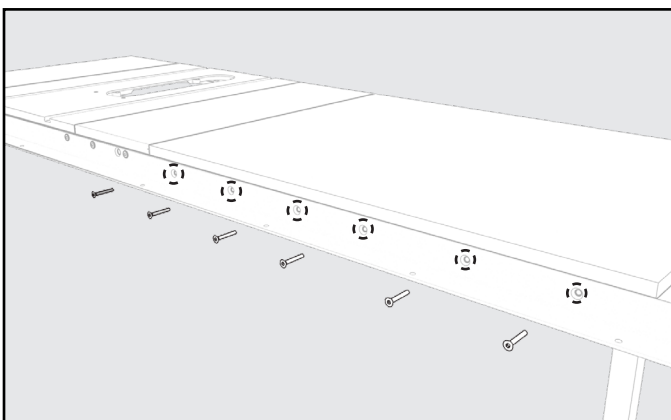
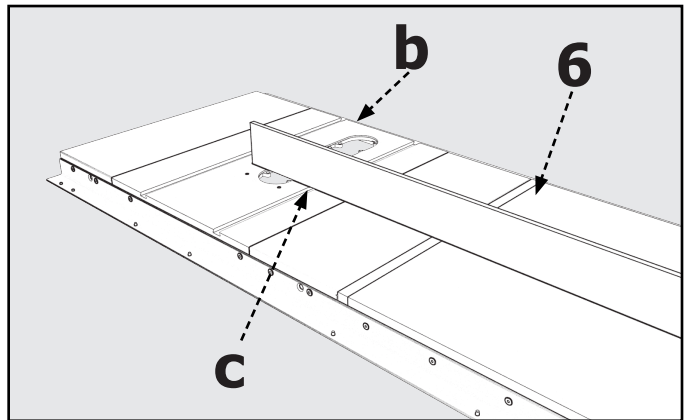

FIGURE 9
FIGURE 8
4. Place Table Assembly (6) in position between the two rails as shown in **Figure 8**. Make sure the Saw Table Edge (B) is flush against edge of the Extension Table.
5. Using a Straight Edge (C), make sure the Extension Table is in the same plane and level with Saw Table. If necessary, lightly tap up or down and adjust Leveling Feet to bring Extension Table level with Saw Table.
6. Use Bar Clamps to secure the Extension Table to the Front and Rear Guide Rails as shown in **Figure 9**.
7. Using the Holes in the Front and Rear Guide Rails, shown in **Figure 9**, as a template, drill 1/4" holes through the front and rear of the Extension Table.